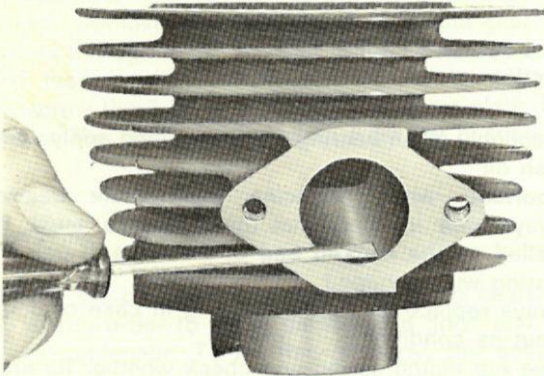

fig. 11
- protect cylinder bore with a rag by decarbonising the cylinder-exhaust port as shown in fig. 11.